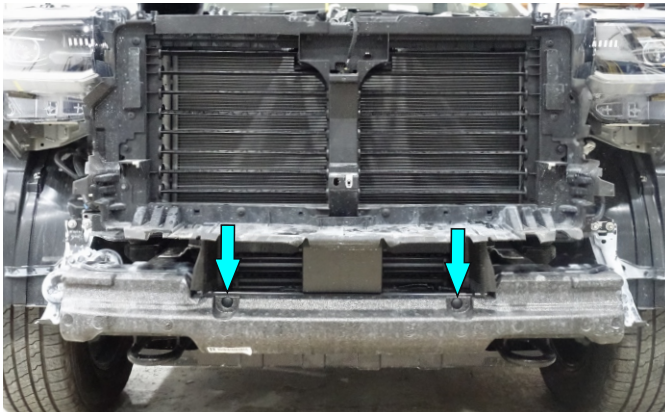

Fig.13
13. Remove plastic clips and polyfoam damper (fig.13).